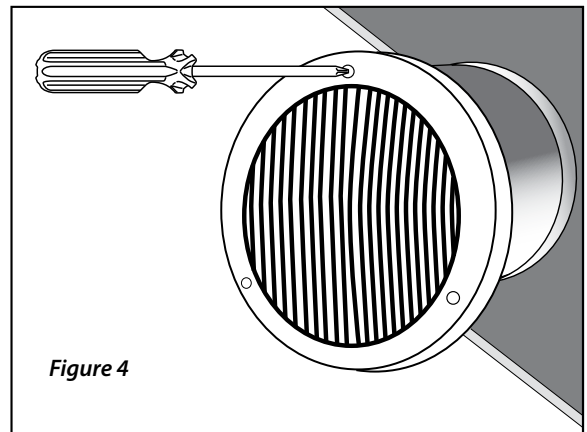

Figure 4
10. Remove metal sleeve with grille attached and drill the holes on both sides of the wall for the anchors with a sharp 3/16" drill bit. Install wall anchors and after re-inserting metal sleeve with grille attached, screw the grilles down snugly. (Figure 4) DO NOT OVERTIGHTEN.